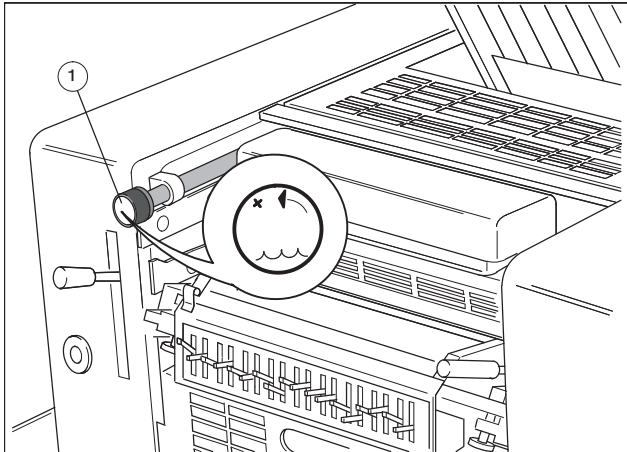

Fig. 10 Control knob for the dampening solution amount, PU 1
1. Press in the control knob (Fig. 10/1) and turn to "+", in order to reduce the squeeze between the water pan roller and dampening form roller; the dampening solution amount increases.